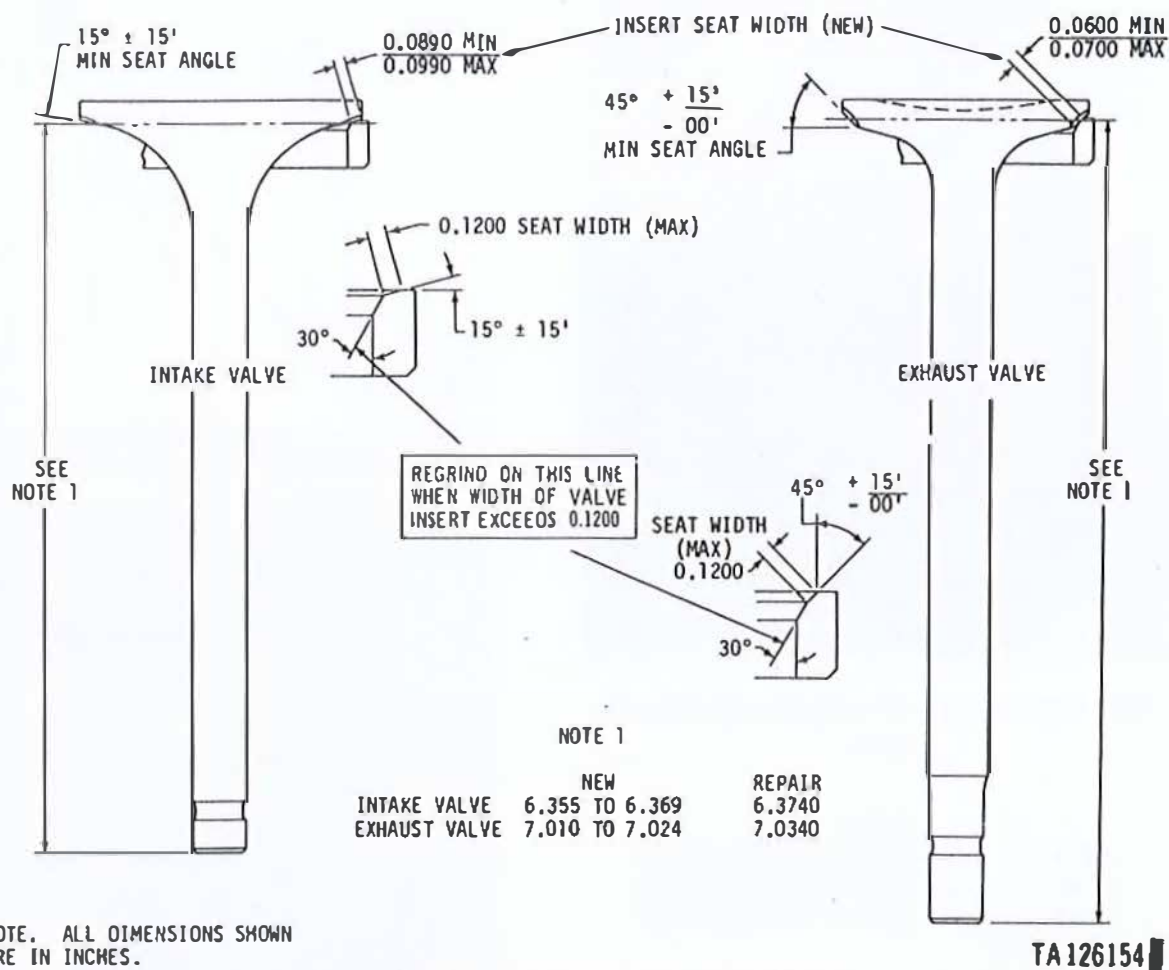

Figure 3-199. Valve and valve seat insert grinding diagram.
(2) *Valve seats.* Replace cylinder assembly (5, fig. 3-190) when inserts are cracked, loose or excessively worn in the cylinder. Grind seats which do not show 360° contact with valve face. Grind inserts (fig. 3-199) as described in (a) and (b) below.
(b) Reface slightly pitted or burned valves that do not have 860° of contact to limits specified in figure 3-199. Discard valves that cannot be refaced to these limits. Check valve length from seat contact to tip of stem after grinding, as shown in figure 3-199. Discard valve if length is not within limits specified.